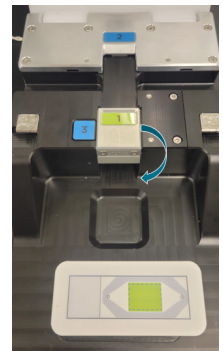

Figure 50: Lower Tailgate
4. Lower the tailgate (tool marker 1) on the flow cell assembly tool (Figure 50). Hold the labeled end of the slide and insert, tissue side up, non-labeled end first, into the tool through the bottom opening. The slide is fully inserted once the non-labeled edge contacts the back of the slide stage (tool marker 2).